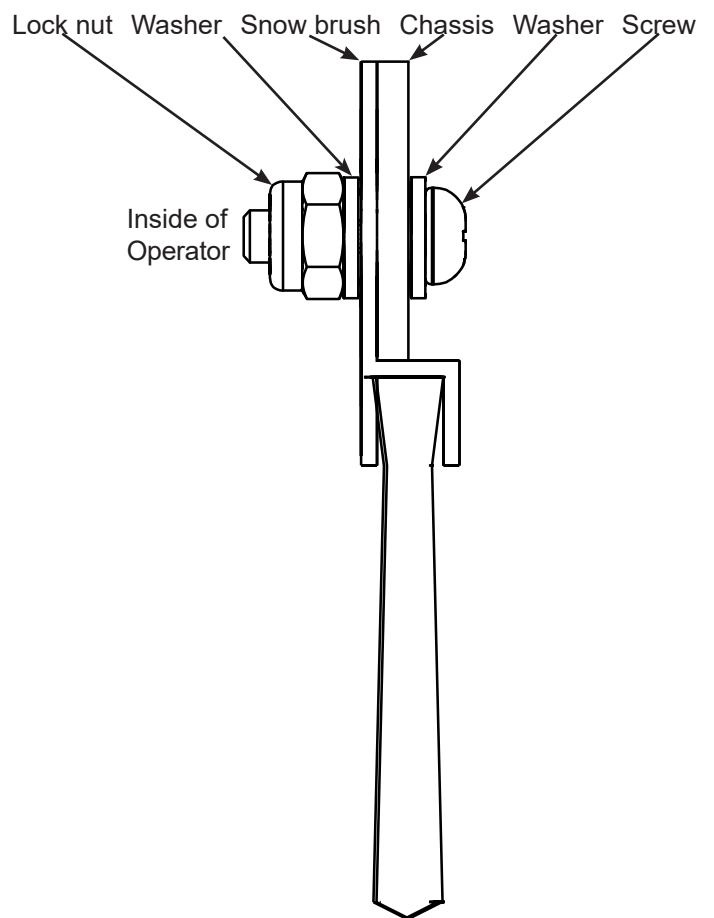
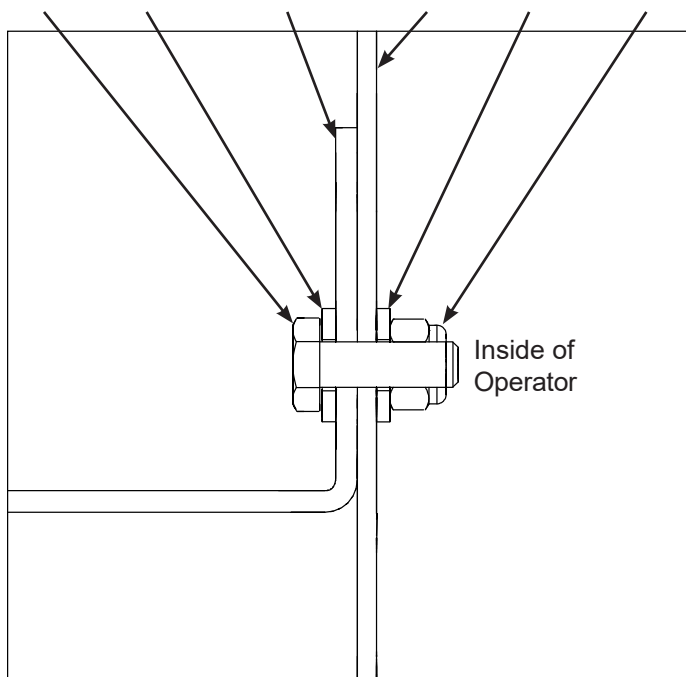
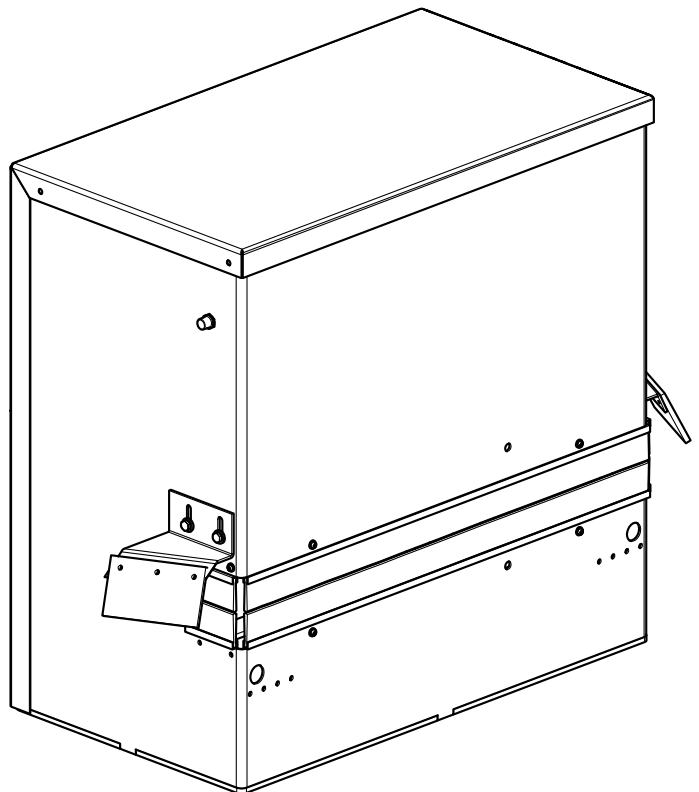

Figure 3. Fasten Snow Brushes
Figure 4. Snow Scraper Bracket Fasteners
Figure 6. Complete Snow Brush and Scraper Installation
3. Slide the snow brushes into place and secure them using the fasteners provided. The aluminum flange should be inside the operator (Figure 3 and Figure 6).
2. Take note of the orientation of the right and left snow scrapers. Slide the brackets into place and adjust them so the scraper rests about  $\frac{1}{8}$  in above the drive rail. Secure the bracket using the fasteners provided (Figure 4 and Figure 6).